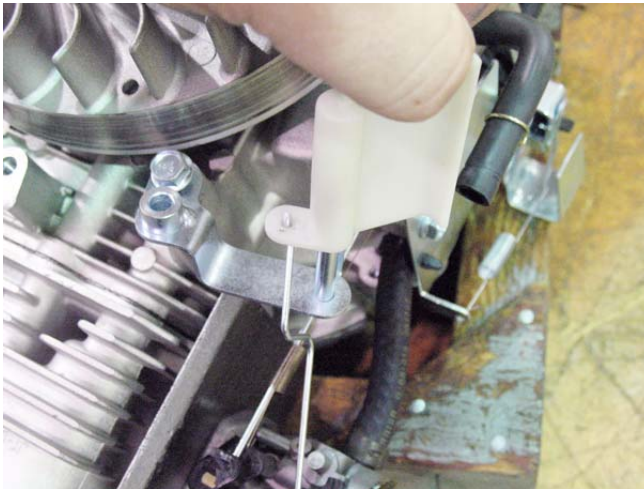

Figure 4.29
3. Slide the air vane off of the bracket. See Figure 4.29.